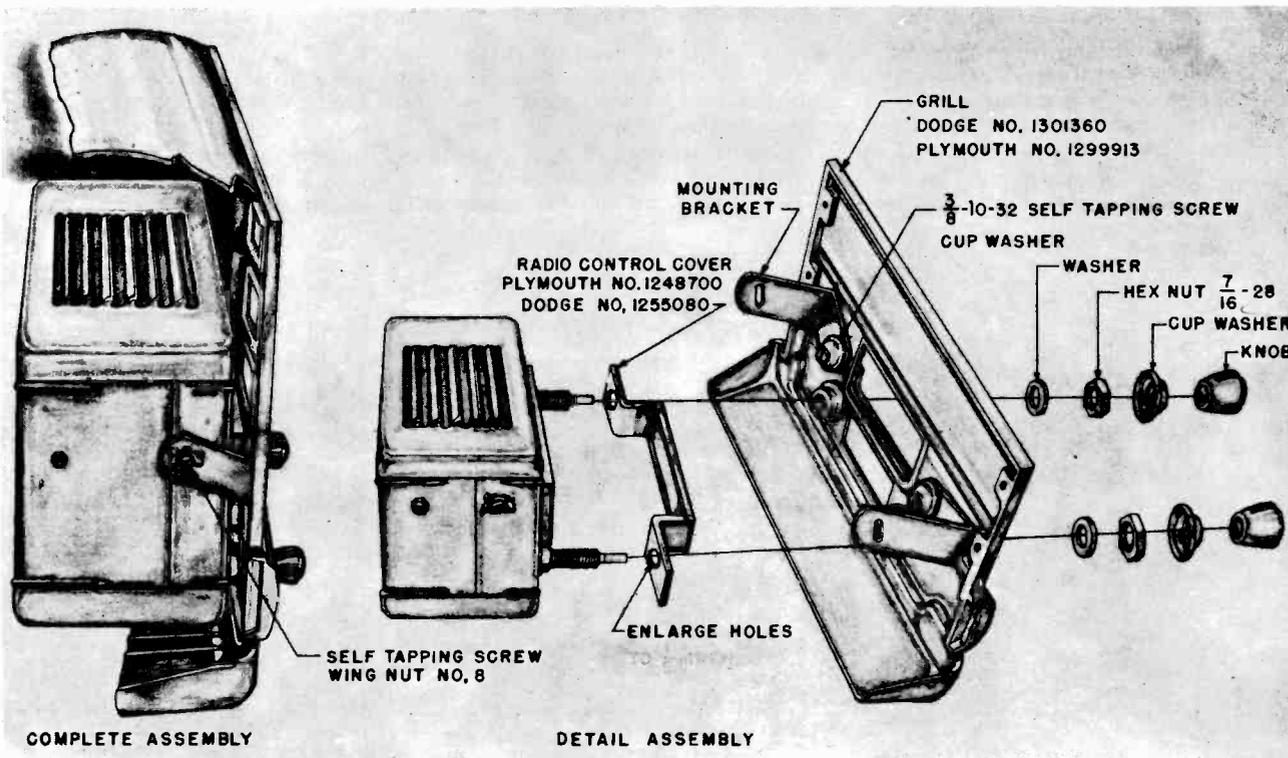

Fig. 2
5. Secure two mounting brackets to Radio Grille with  $\frac{3}{8}$  inch long 10-32 self-tapping screws and cup washers as shown in detail assembly drawing, Fig. 2.
(See detail assembly drawing FIG. 2)